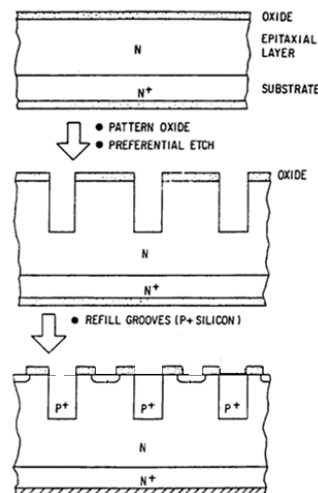

Figure 1 - Schematic of fabrication steps in the fabrication of vertical field effect transistors by etching technique
3. [a] As an engineer you have to decide which epitaxial growth techniques can be chosen to fill the etched gate areas, as shown in Figure 1.